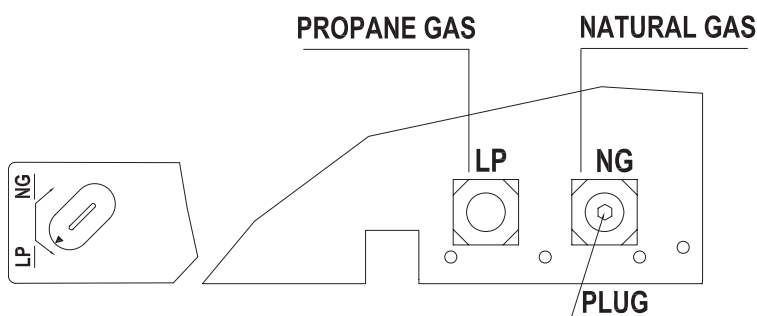

Figure 16
2. For propane gas, press in knob using a flat screwdriver with a blade the thickness of a quarter and turn knob counterclockwise  until the knob locks into the LP position, see Figure 16. Selection valve must be locked in the LP position. Do not operate heater between locked positions.